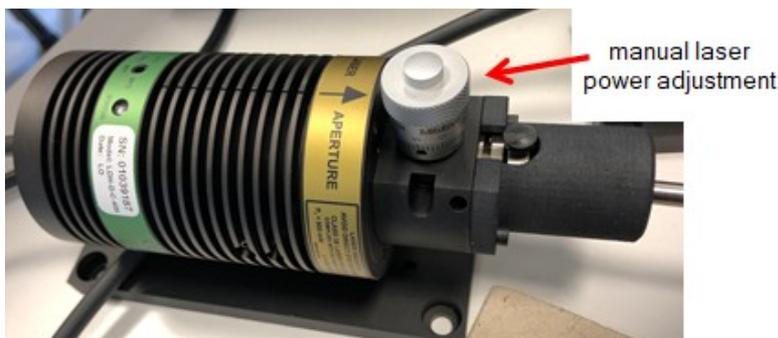

Figure 2: PicoQuant LDH series laser head
- b. Open the manual laser power adjustment screw at the laser head (Figure 2).